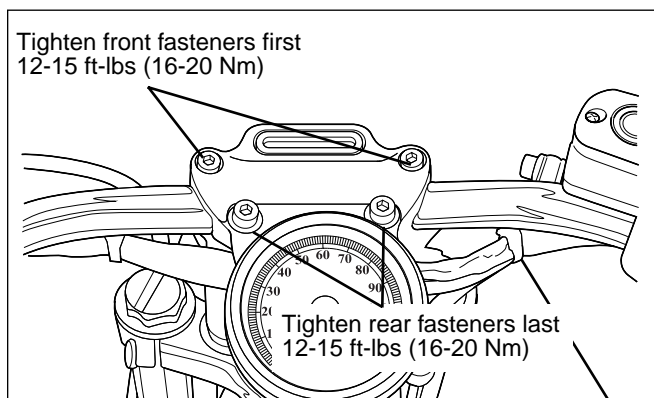

Figure 3.
1. See Figure 3. Remove rear riser fasteners and instrument cluster.